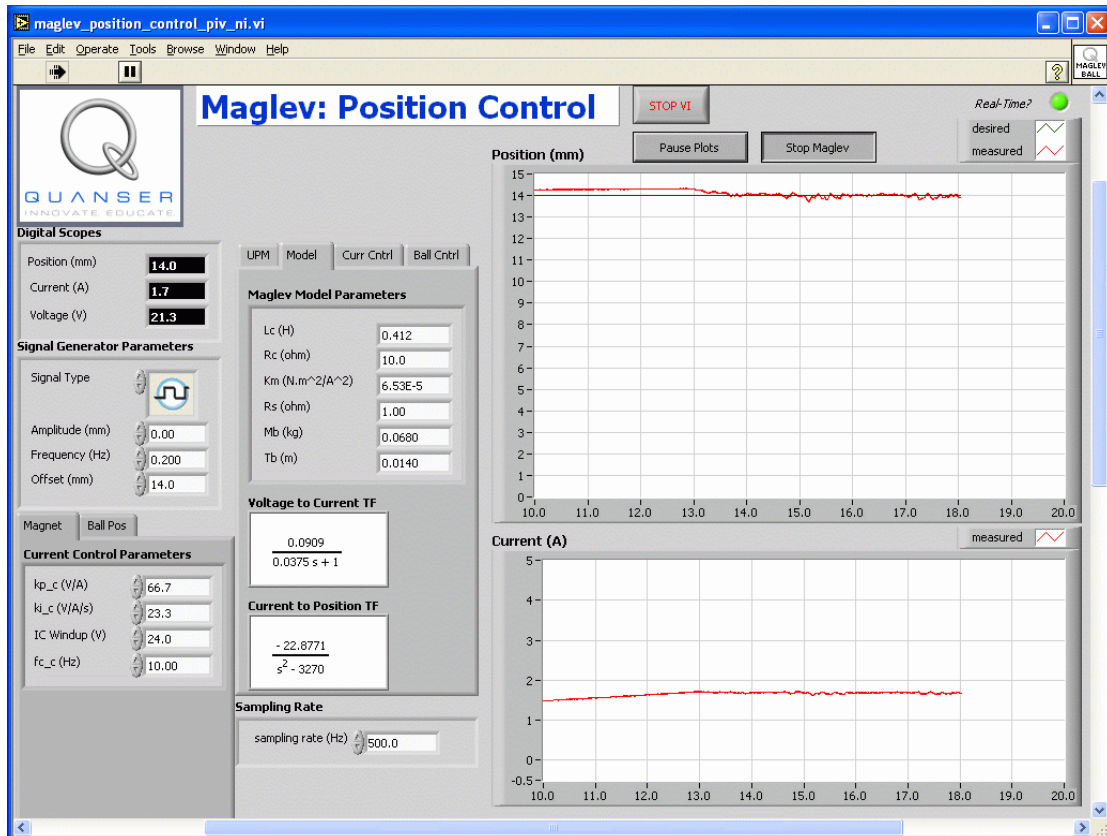

Figure 10 Initial position controller response.
Step 18. Run the VI by clicking on the white arrow button located in the top-left corner of the window. In about 10-15 seconds, the current should increase enough such that the red measured position begins to be stabilized about the desired blue position in the *Position (mm)* scope, as shown in Figure 10. This is the initial startup phase when running the Maglev.